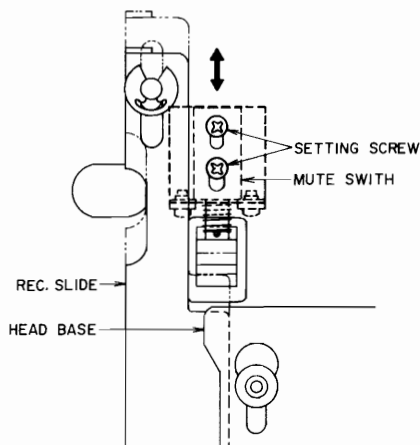

Fig. 8
7. MUTE SWITCH ADJUSTMENT (See Fig. 8)